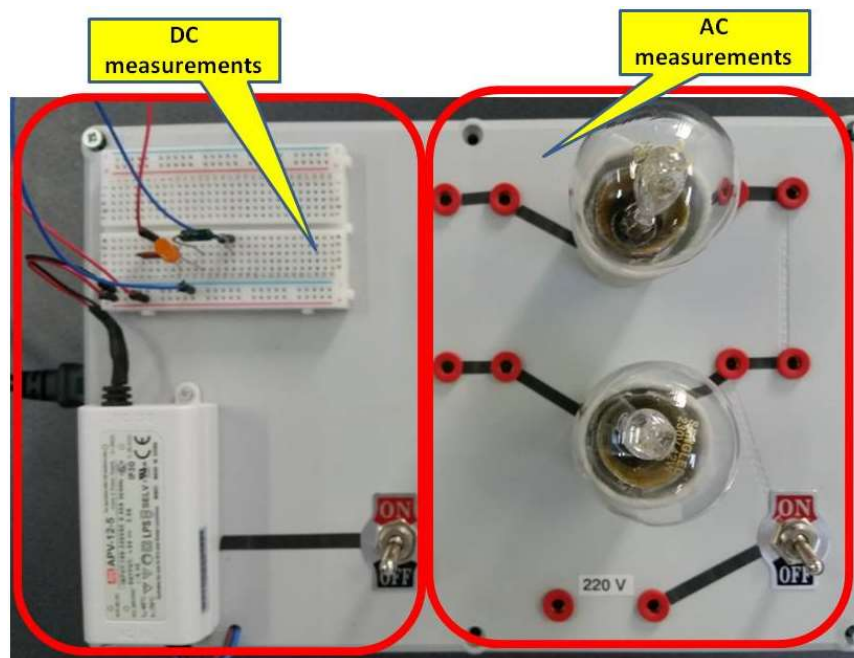

Fig. 1.5: The main sections of the experimental setup
The experimental setup consists in two main sections: one for alternating (AC) voltage and current measurements and one for direct (DC) voltage and current measurements (Fig. 1.5).